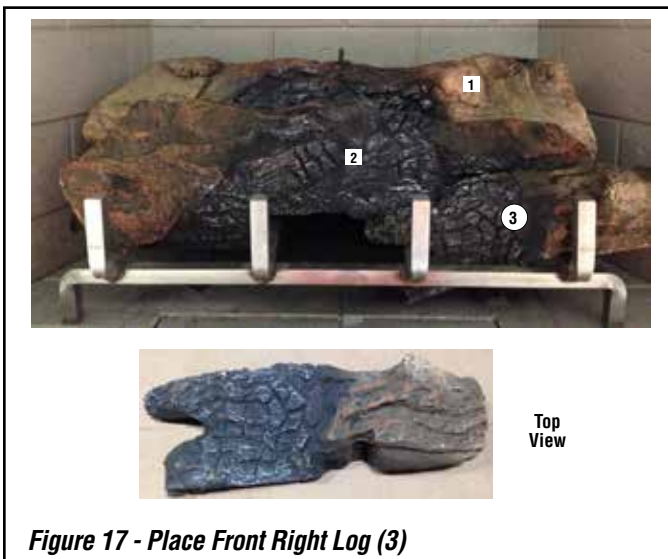

Figure 17 - Place Front Right Log (3)
3. Place front right log (3) onto grate. The notch on the "charred section" will fit around the grate (**Figure 17**).